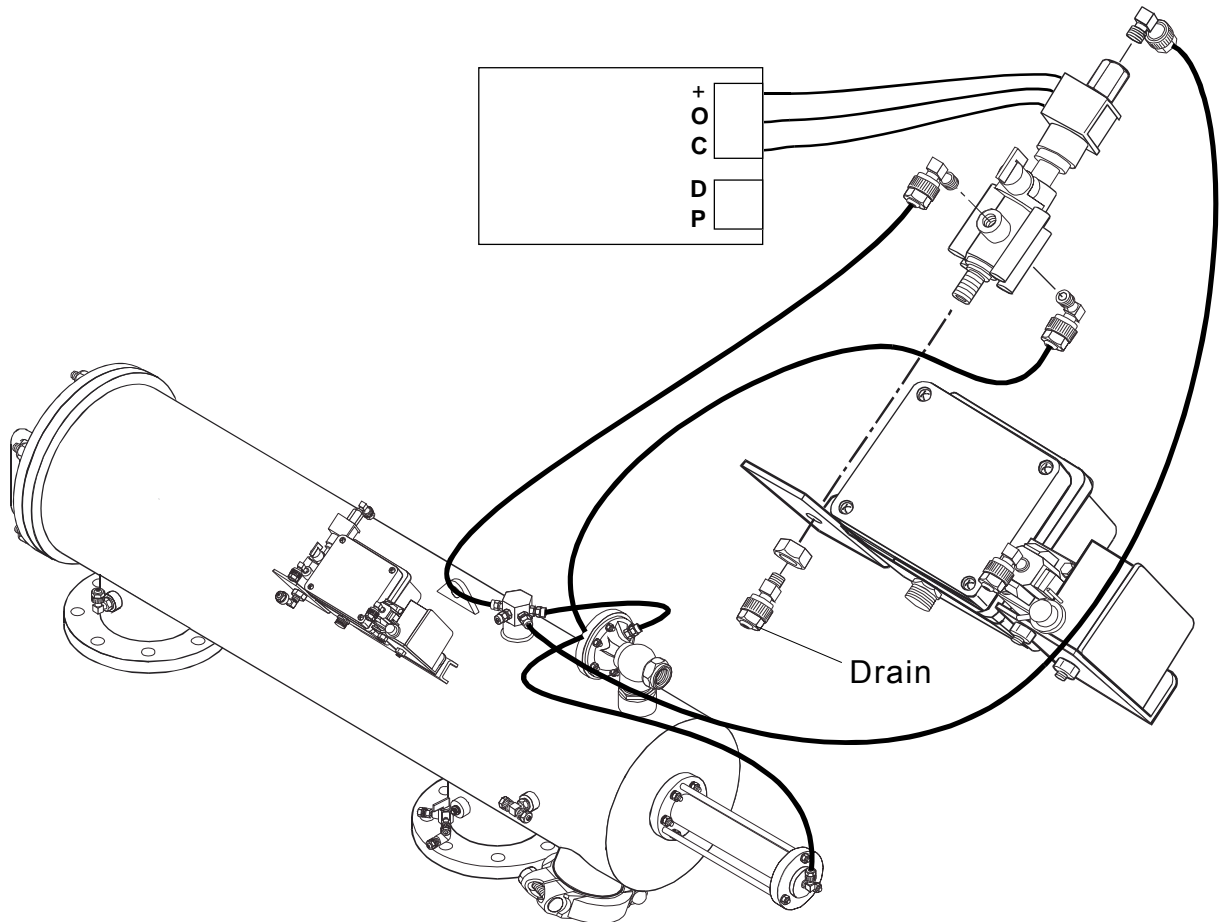

Figure 5: Solenoid Removal & Installation
Solenoid Removal & Installation (Figure 5)
10. Connect the electrical wiring to the control card terminals (white, red and black wires) (See Figure 5).